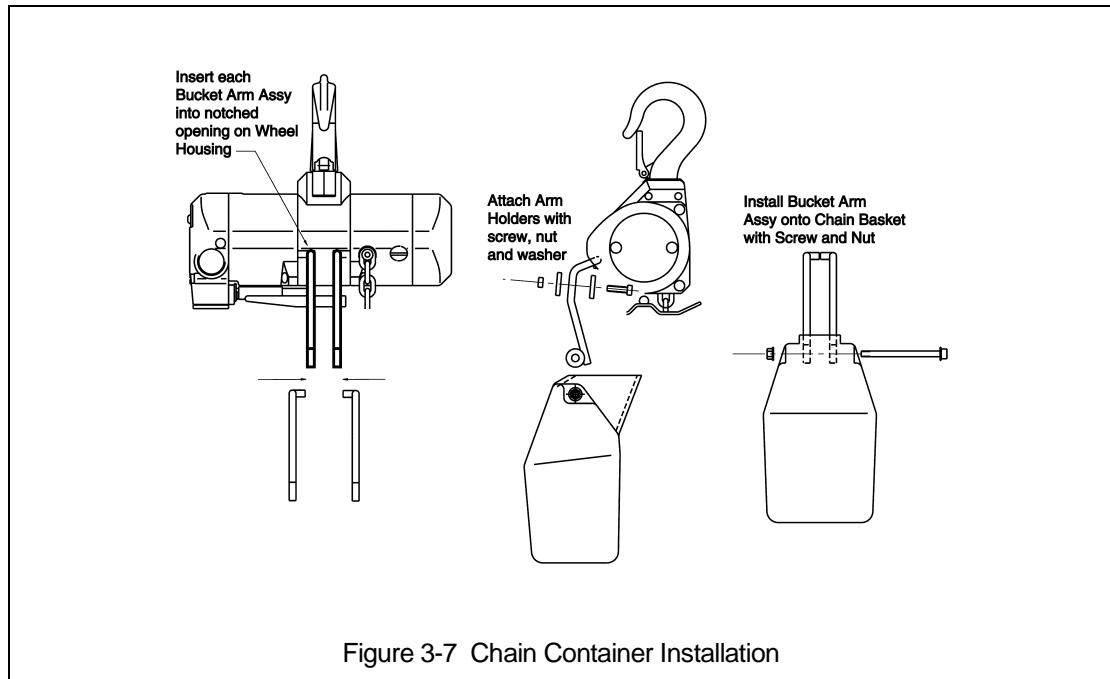

Figure 3-7 Chain Container Installation
3.10.1 Follow instructions below to install the optional chain container. Refer to Figure 3-7.